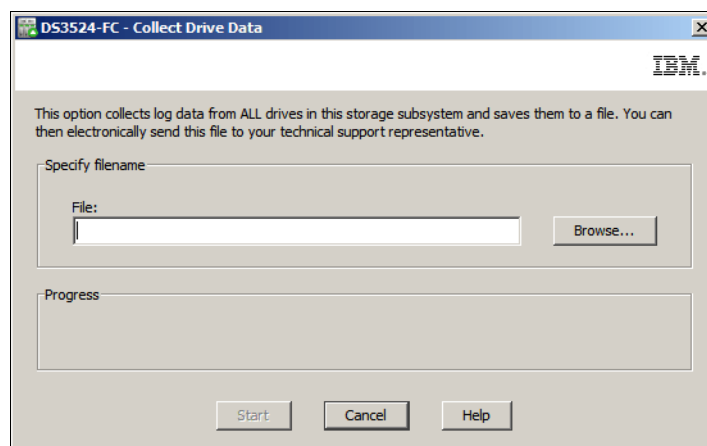

Figure 14-10 Collect Drive Data
1. In the DS Storage Manager (Subsystem Management) window, click **Advanced** → **Troubleshooting** → **Collect Drive Data** to start the **Collect Drive Data** window as shown in Figure 14-10.